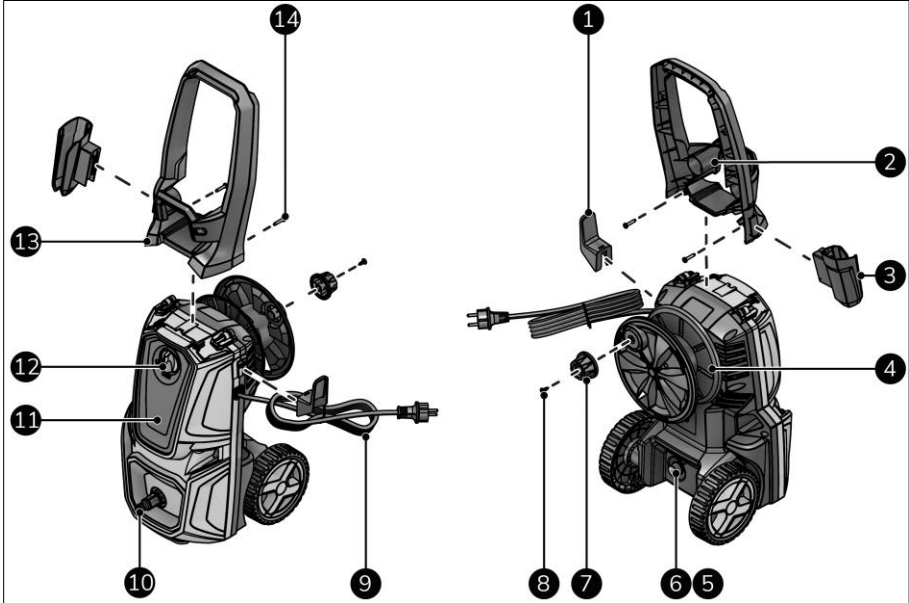

Figure 4
This EUROM device is an easy-to-use high-pressure cleaner (Figure 4). The device is designed for household use, such as cleaning vehicles, buildings, terraces, facades and garden equipment.
1. Make sure the ON(I)/OFF(O) switch is in the OFF(O) position (Figure 4, pos. 12).